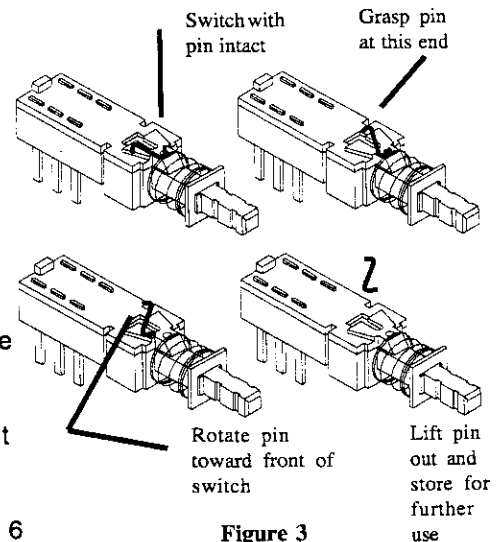

Figure 3
3. Remove the (4) screws holding the bezel to the extrusion.
5. Grasp the rear edge of the Power Distribution Circuit Board (on top), slide it back and lift it free from the (4) standoff fasteners holding it to the lower circuit board. **Caution:** The circuit board is still attached. See steps 6 & 7 below.
8. See Figure 3 for information on converting the switch. Once converted the switch may be converted back again if the toggle pin is not lost.